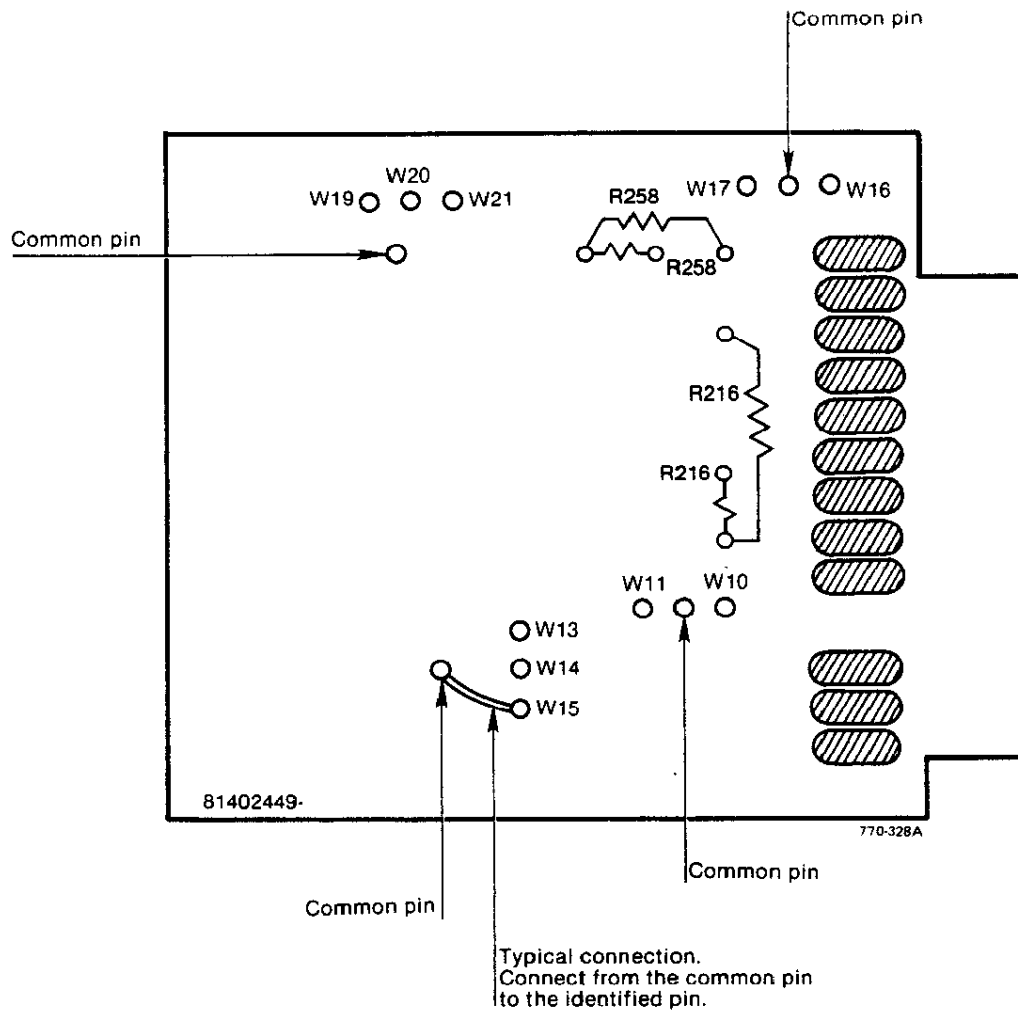

Figure 9-1—Connector locations on the analog board
2.	Use Figure 9-1 as a guide to locate the connections and resistors listed in Table 9-7 for the input type you are changing to, and change their status (INSTALLED or Removed) as required. <ul style="list-style-type: none"> ■ Remove connections and resistors by cutting at both ends. ■ Install connections by wire wrapping or soldering to the common pin and the pin identified by a W and a number ■ For the Current Input Type, solder the 2.5 ohm resistor in the holes provided for R216 or R258. For Volts input type, solder in a 2.49K ohm resistor. For all other input types in Table 9-7, leave the hole open. ■ For Volts Input Type, solder 249K ohm resistor in the holes provided for R122 (channel 1) and/or R123 (channel 2).